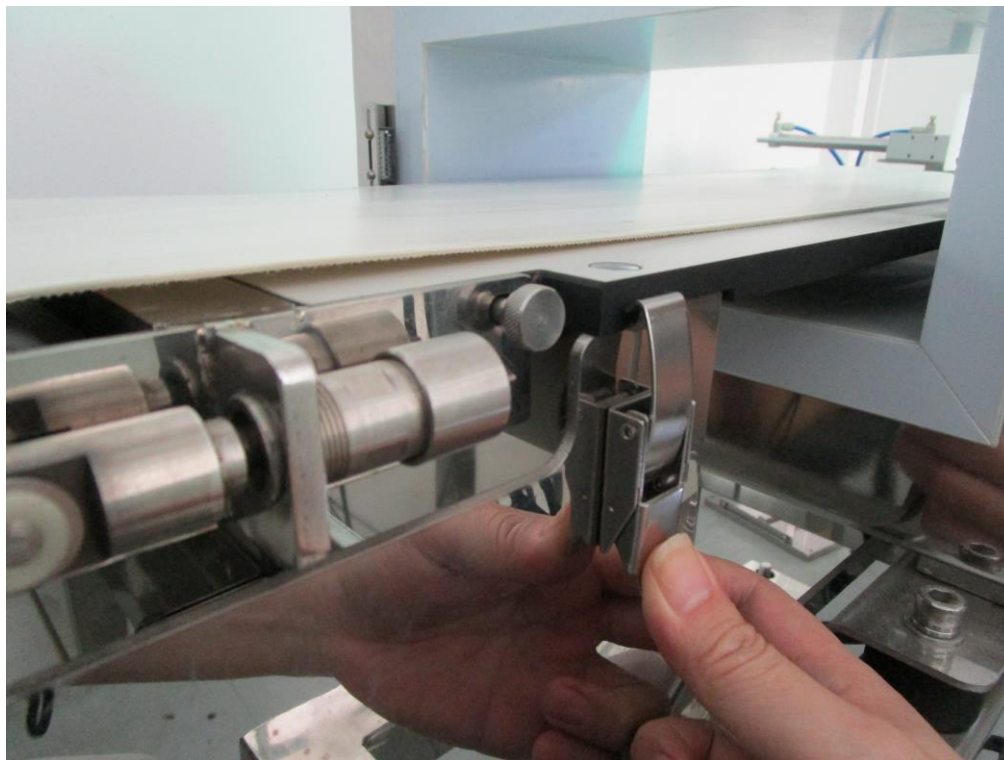

Figure 4-7 Fasten the buckle
7) Fasten the 4 buckles on both sides of the platform (Figure 4-7).